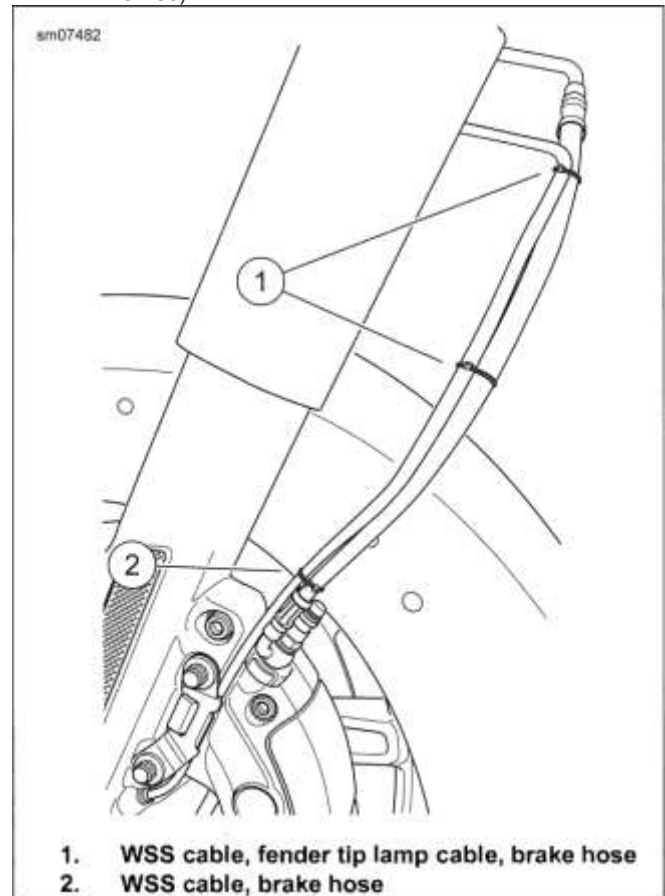

Figure 3-156. Secure Cables and Brake Hose
2. See Figure 3-156. If equipped with fender tip lamp:
- a. Mate connector. Secure harness with two new cable straps (1).